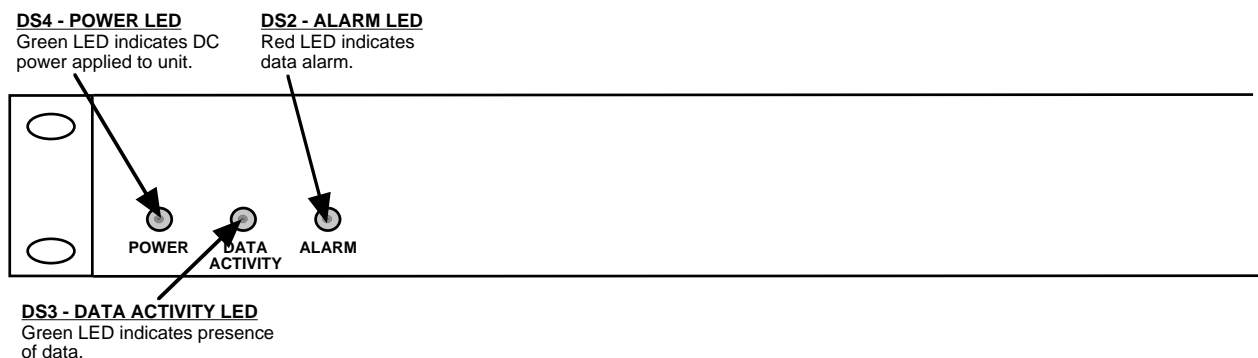

FIGURE 2.3 2711-70 Front Panel Controls and Indicators
Figure 2.3 shows the front panel controls and indicators.
1. Connect 70 MHz FSK signal to 70 MHZ input, J12 (Figure 2.3).